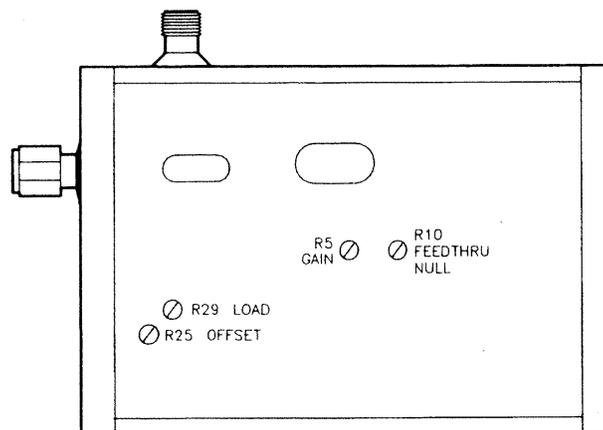

Figure 5-1. Adjustment Potentiometer Locations
Figure 5-1 shows the locations of the adjustment potentiometers.
8. Adjust R5 (see Figure 5-1) for a cursor reading of -8 ± 0.1 dBm.
9. Set the attenuator to 30 dB and adjust R29 (Figure 5-1) for a cursor reading of **calibrated** -38 dBm (calibrated -30 dB $- 8$ dB). Adjust R29 so the measured value is within ± 0.1 dBm of **calibrated** -38 dBm.